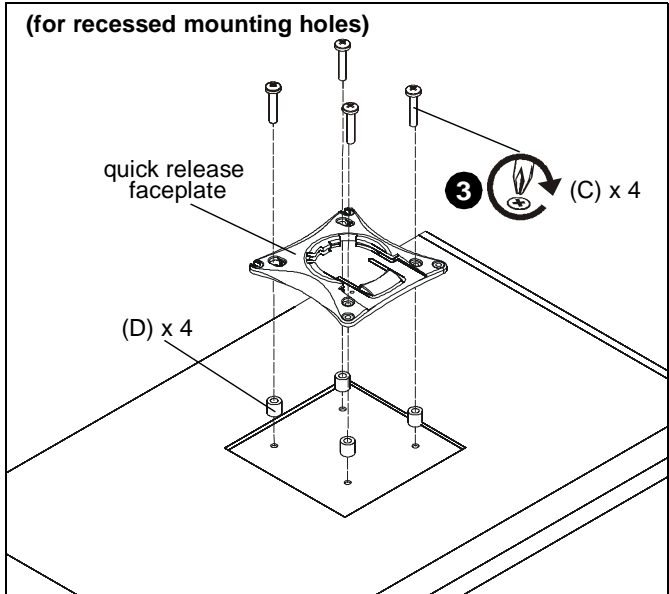

Figure 9
- Place four spacers (D) on top of mounting holes on back of display. (See Figure 9)
- Using Phillips screwdriver, carefully install four M4x25mm screws (C) through corresponding holes on faceplate, spacers (D) and into the mounting holes on the display. (See Figure 9)